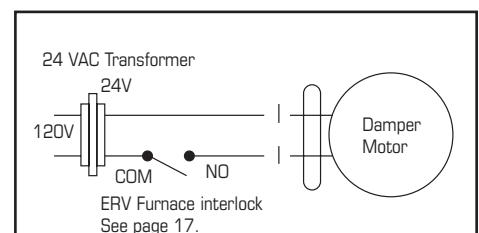

Figure 1
**If the ERV is installed such that the homeowner may turn off the ERV during the winter, we recommend installing a motorized damper between the ERV's supply air and the furnace's return air duct that closes when the ERV is not operating. See wiring diagram (figure 1).**